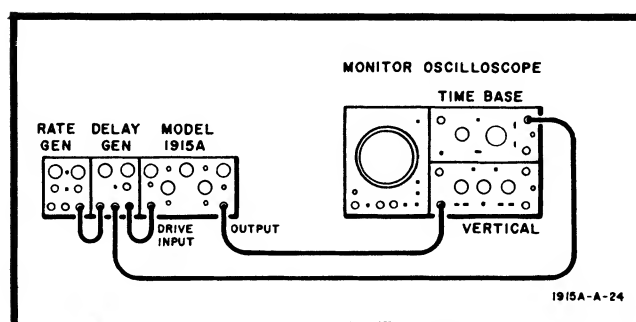

Figure 5-10. Adjustment Test Setup
- a. Connect equipment as shown in Figure 5-10.